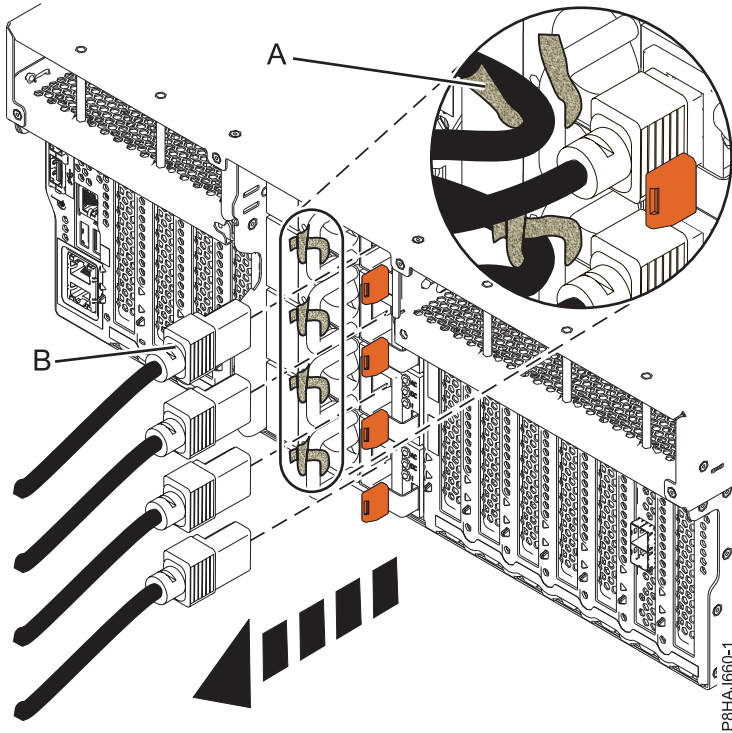
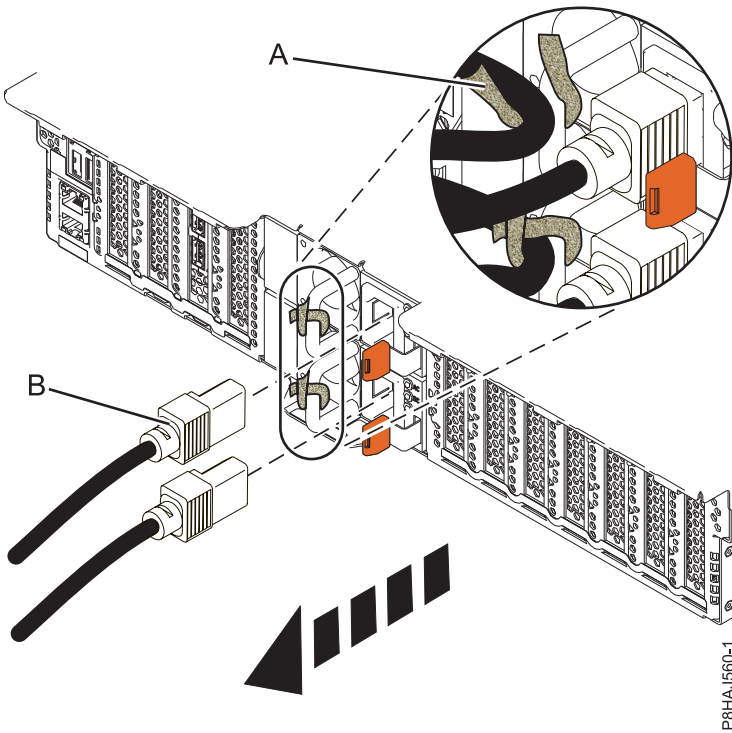
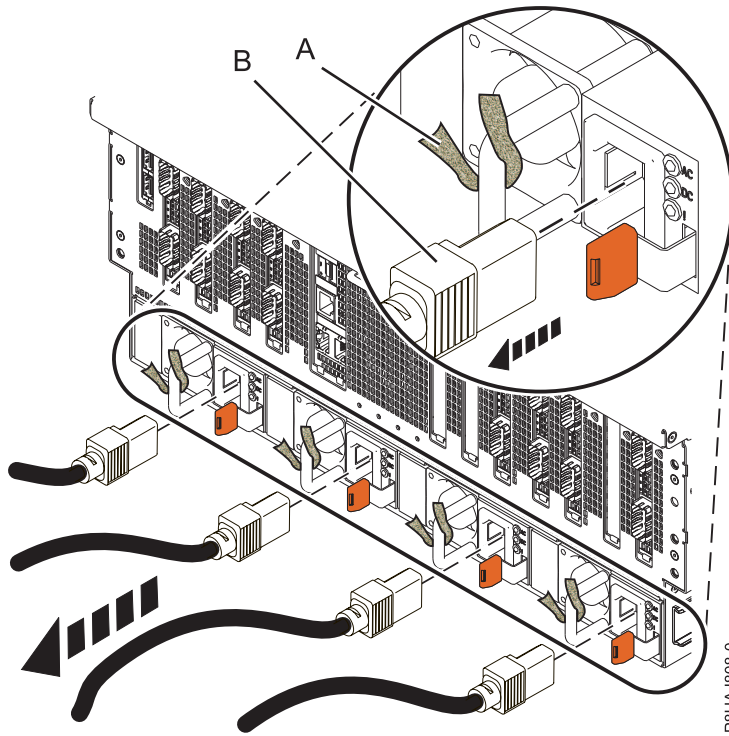

Figure 37. Removing the power cords from an 8247-42L, 8286-41A, or 8286-42A system
Figure 38. Removing the power cords from an 5148-21L, 5148-22L, 8247-21L, 8247-22L, 8284-21A, or 8284-22A system
Figure 39. Removing the power cords from an 8408-44E or 8408-E8E system
3. Disconnect the power cords (**B**) from the system unit. See Figure 37 on page 50, Figure 38 on page 50, or Figure 39 on page 51 or depending on the type of your system.